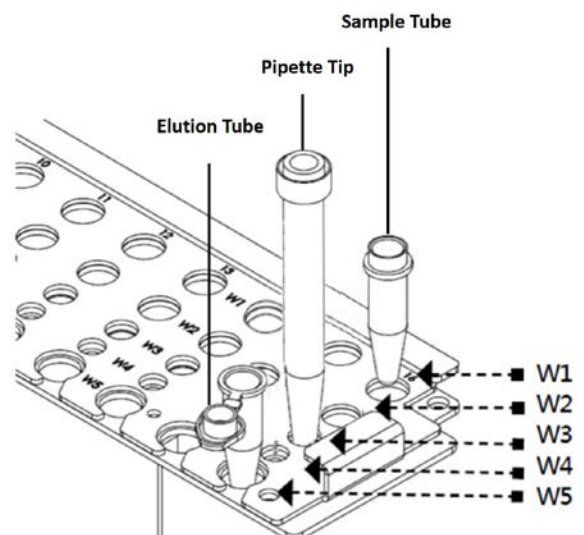

Fig. 3. Well Position of Sample Rack
5. Place the prepared **Sample Tube**, **Pipette Tip**, and **Elution Tube** in **W1**, **W3**, and **W5** of **Sample Rack** respectively (Fig. 3).